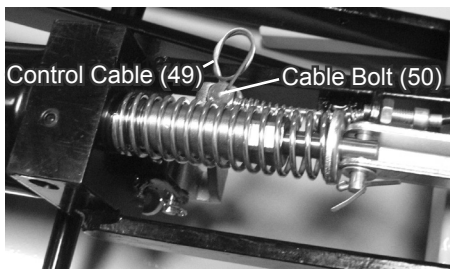

Figure 5
- b. Loosen the Cable Bolt (50) and Cable Nut (51) and tug the Control Cable until it is tight. **WARNING! TO PREVENT SERIOUS INJURY:** Do not pull too tight; you want to leave a small amount of give. See Figure 5.